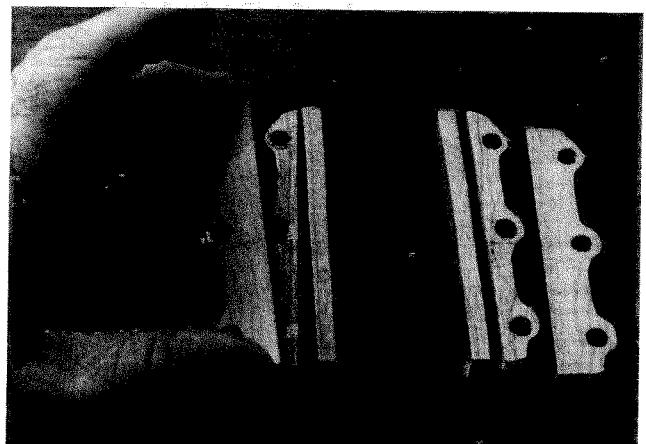
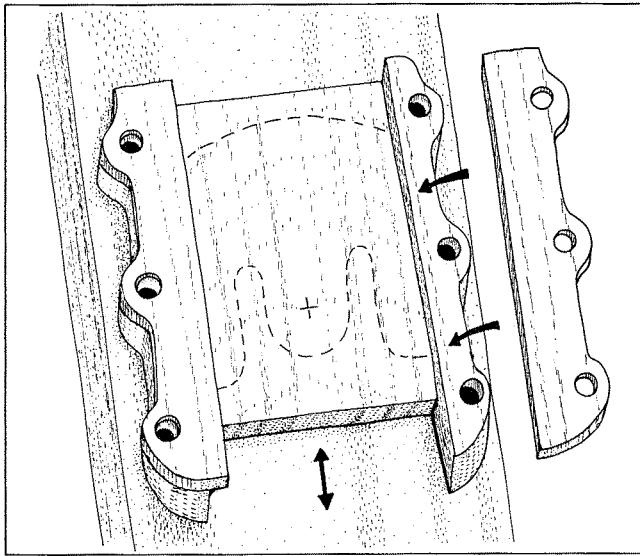

FIGURE 6-4
FIGURE 6-4A
- 5** Slice a $\frac{1}{4}$ "-wide strip from the straight edge of both thick layers (Fig 6-4), and have a trial fitting. Label the layers so you know precisely what goes where (Fig 6-4a).